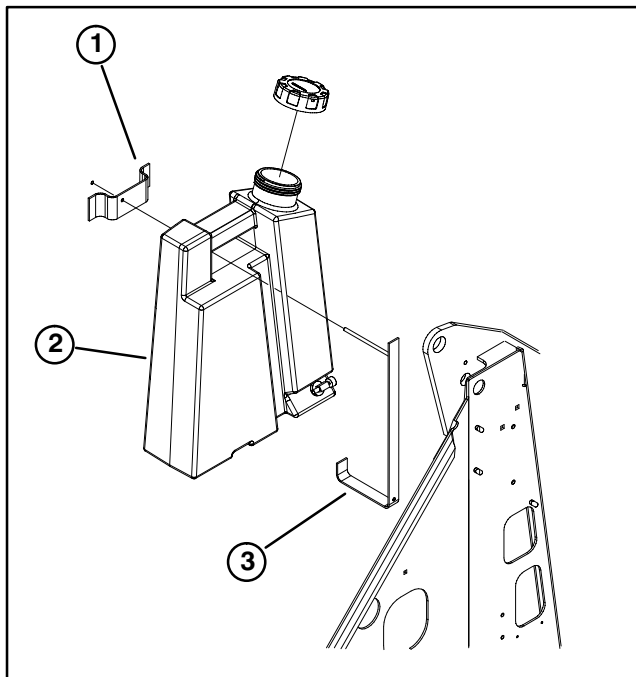

Figure 1
2. Remove nut and fuel tank plate securing tank to tank mount as shown in figure 1.
3. Remove (2) screws securing tank mount to side of frame (Fig. 1). Discard all components.